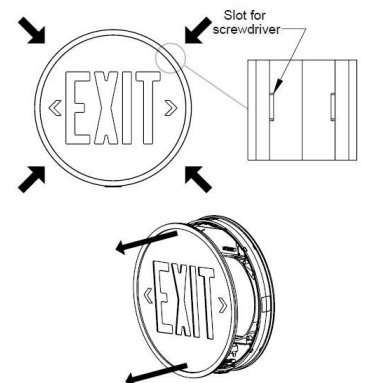

FIGURE 1
2. Open the ACE by removing the stencil face and lens assembly. Place a flat blade screwdriver in the slots at the top and bottom of the stencil face and gently twist. (See Figure 1)